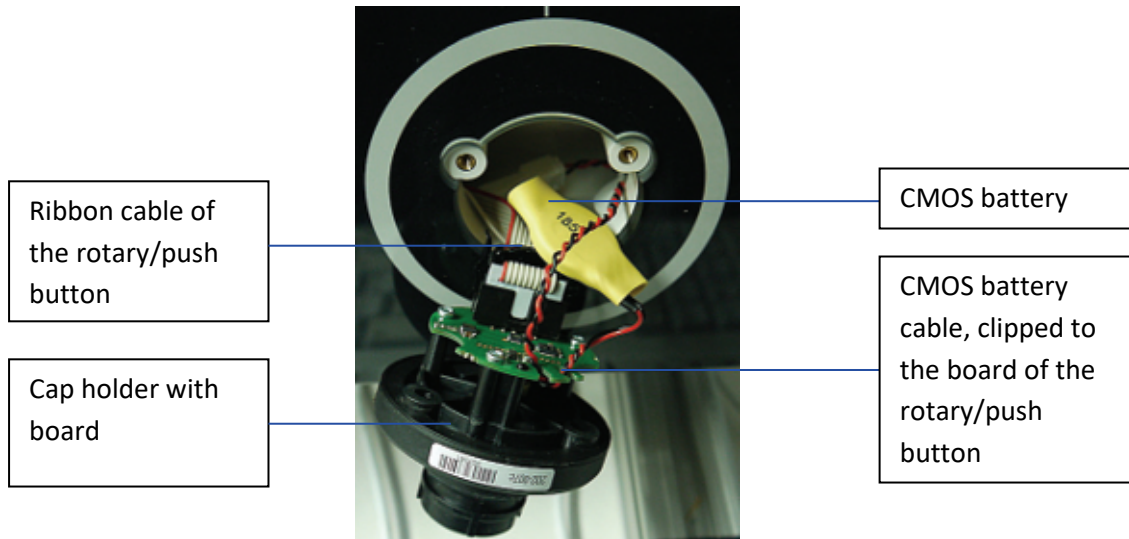

Fig. 40: Rotary/push button and CMOS battery, pulled out of the housing
4. Remove the battery cable from the board of the rotary/push button (see Fig. 40).